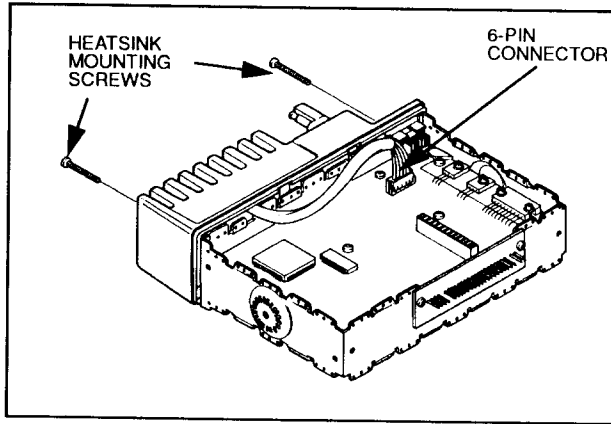

Figure 4.
- (3) Remove the heatsink mounting screws (figure 4). Pull heatsink off of chassis while carefully feeding the transmit and receive coax cables through their respective holes in the chassis.